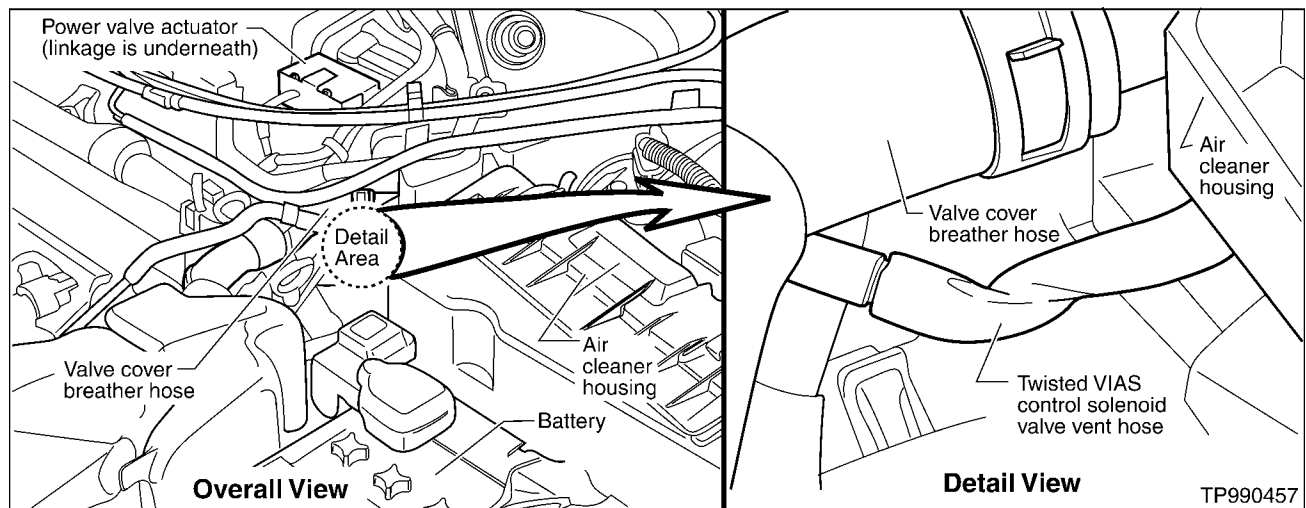

Figure 1
1. Refer to Figure 1 to locate the VIAS control solenoid valve vent hose on the vehicle. It is the general size of vacuum hose. It is located beneath the valve cover breather hose, between the air cleaner housing and a vacuum hose tee fitting.
5. Locate the Power Valve Actuator to Power Valve linkage, under the Power Valve Actuator body, at the end of the intake manifold (see Figure 1, above).